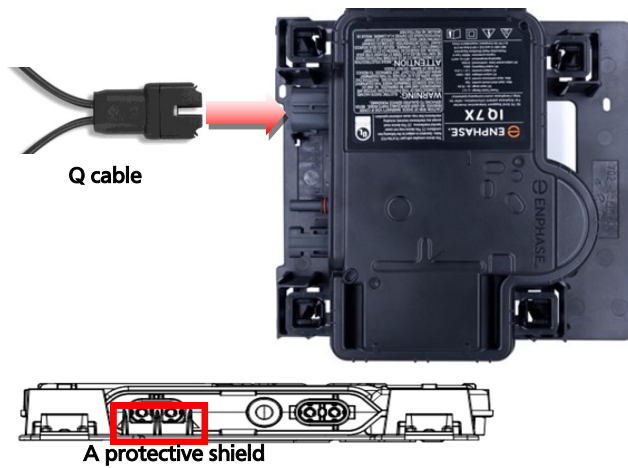

Figure 6. Connect the Q Cable to the microinverter
- Connect the Q Cable to the microinverter. Listen for a click as the connectors engage. (See Figure 6)